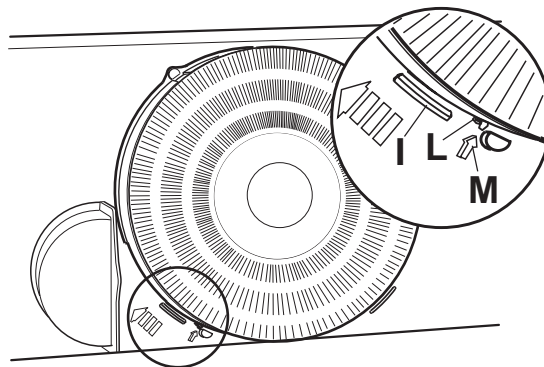

Fig. 8
- Insert the filter into points I (Fig. 8) by making point L match up with point M and turn it in a clockwise direction, as indicated by the arrow D, until it is secured.